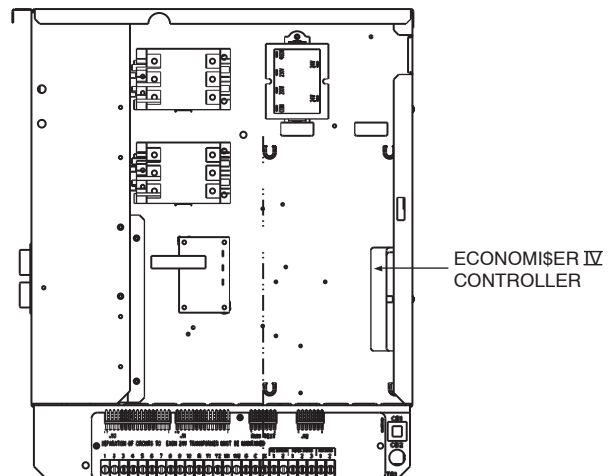

Fig. 9 – EconoMi\$er IV Controller Location
- Install the EconoMi\$er IV controller into the control box. Secure the board using two screws provided in the pre-drilled holes. (See Fig. 9 and 10.)
13. Install the EconoMiSer IV controller into the control box. Secure the board using two screws provided in the pre-drilled holes. (See Fig. 9 and 10.)